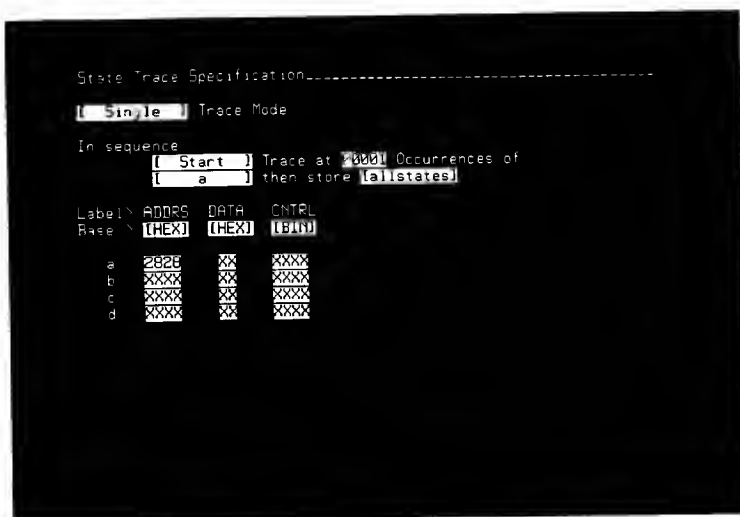

Figure 3-7. Specifying A Trigger State
6. Using keyboard keys, type in the address you wrote down in step 1 above. This sets up the state measurement function to trigger when it finds your selected state on the address lines. The X's under DATA and CNTRL indicate that any states on those lines will satisfy the row "a" specification. See figure 3-7.